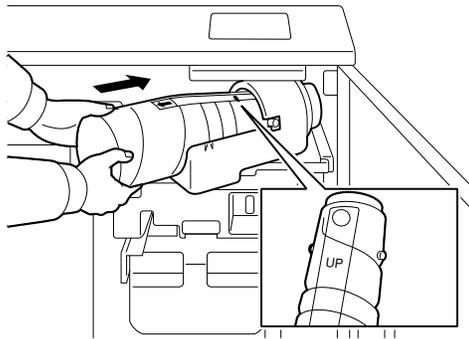

Figure 5-31
4. With the "UP" marking on top, insert the Toner Bottle into position as shown in Figure 5-31. Check that the black line on the Bottle is aligned with the Δ marking on the Toner Bottle.